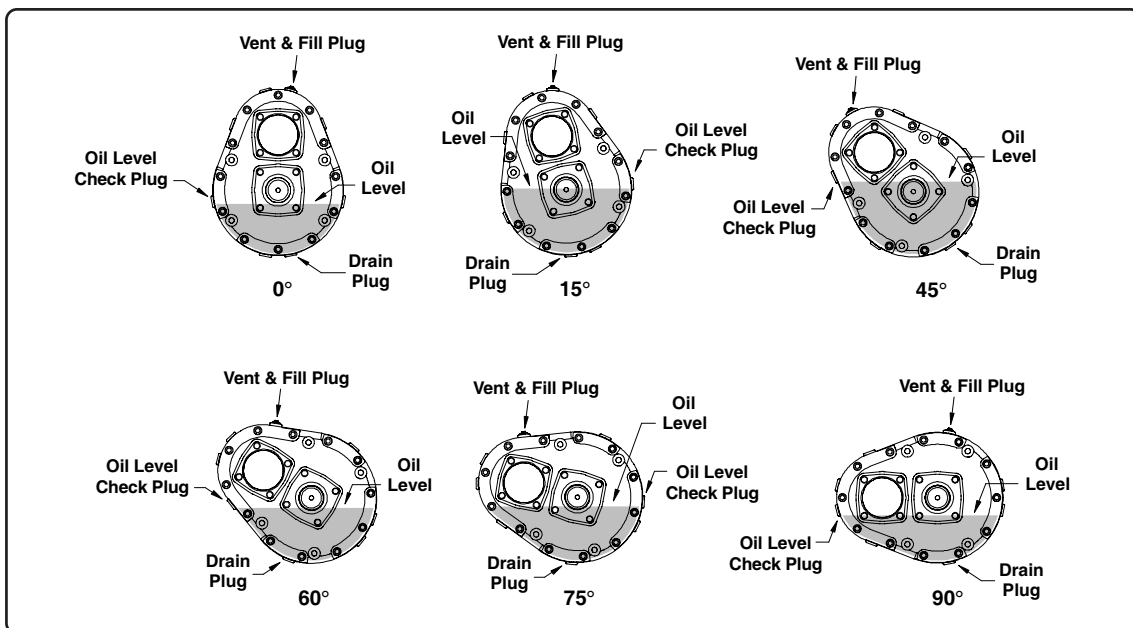

Fig. 19
1. Before adding oil to the gearbox, determine the position of the conveyor when in its operating position (oil level will depend on the angle which the conveyor is operating, See Fig. 19).
Locate and remove the vent/fill plug and the oil level check plug as shown in Fig. 19. The vent/fill plug may need to be relocated depending on the angle the conveyor will be operating (See Fig. 19).